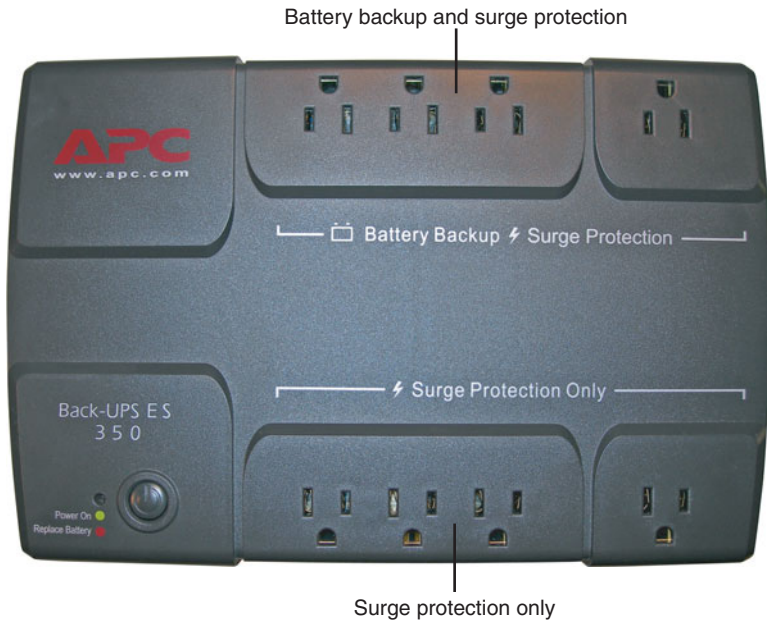

FIGURE 5.3 A common UPS
But the battery backup can't last indefinitely! It is considered emergency power and typically keeps your computer system running for 5 to 30 minutes depending on the model you purchase. Figure 5.3 shows an example of a typical inexpensive UPS. Notice that some of the outlets on the device are marked for battery backup *and* surge protection, whereas others are for surge protection only.
UPS devices' output power capacity is rated in volt-amps (VA) and watts. Although you might have heard that volt-amps and watts are essentially the same, this is one of those times that they are somewhat different. The volt-amp rating is slightly higher due the difference between apparent power (when in battery backup mode) and real power (when pulling regular power from the AC outlet). For example, the device in Figure 5.3 has a volt-amp rating of 350 VA but a wattage rating of 200 watts. Generally, this is enough for a computer, monitor, and a few other devices, but a second computer might be pushing it given the wattage rating. The more devices that connect to the UPS, the less time the battery can last if a power outage occurs; if too many devices are connected, there may be inconsistencies when the battery needs to take over. Thus many UPS manufacturers limit the amount of battery backup-protected receptacles. Connecting a laser printer to the UPS is *not* recommended due to the high current draw of the laser printer; and *never* connect a surge protector or power strip to one of the receptacles in the UPS, to protect the UPS from being overloaded.